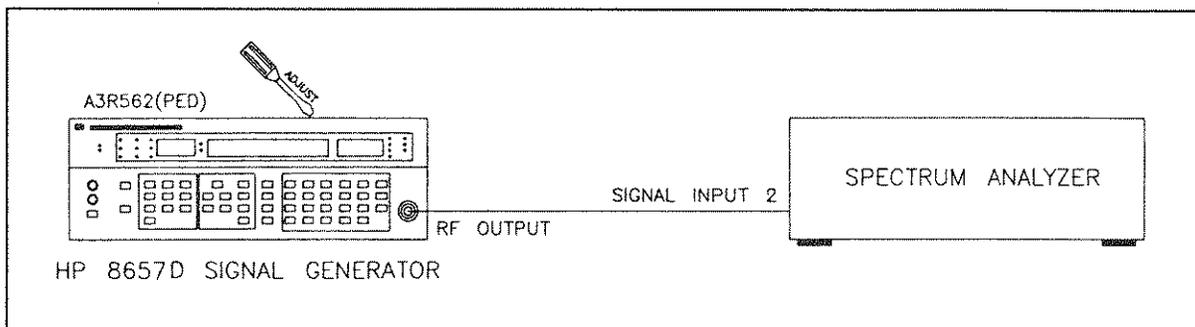

Figure 5-16. Pedestal Adjustment Setup
- Connect the RF OUTPUT of the HP 8657D to the spectrum analyzer as shown in Figure 5-16.